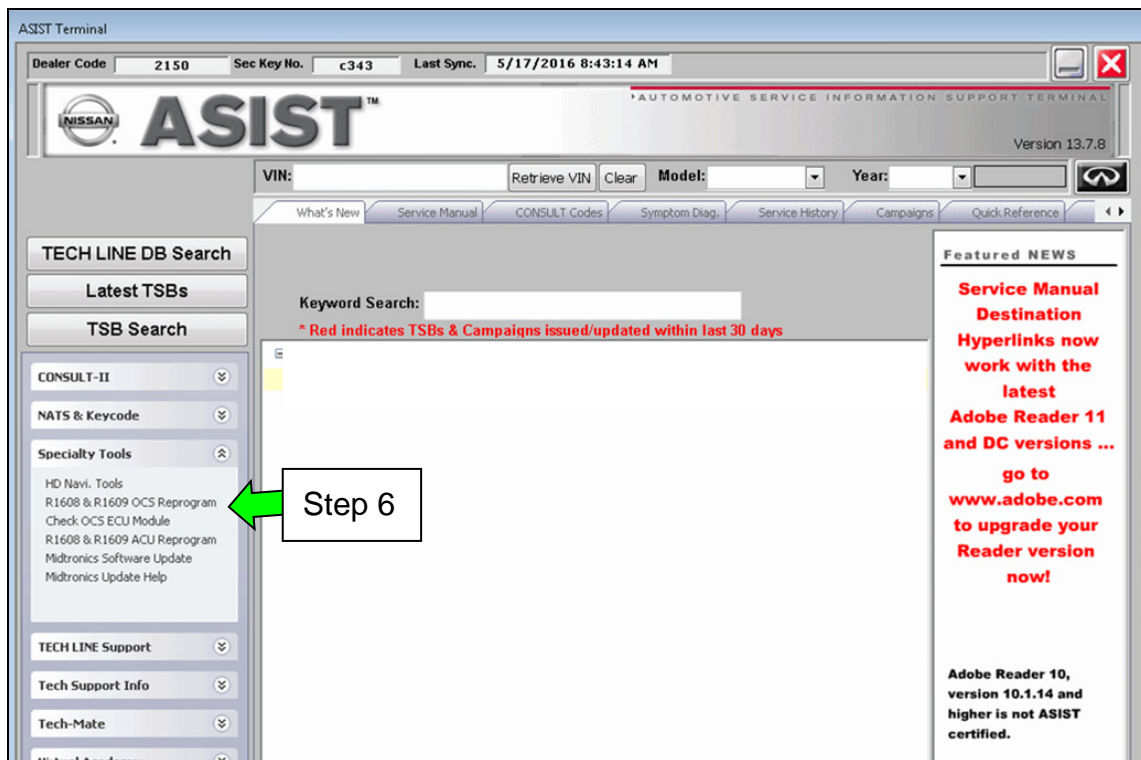

Figure 25
6. Select “R1608 & R1609 OCS Reprogram” on ASIST under Specialty Tools (Figure 25).